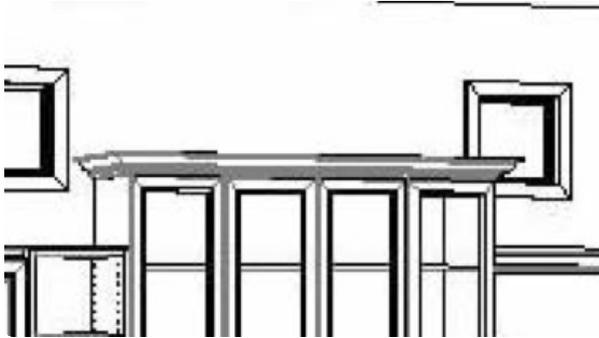
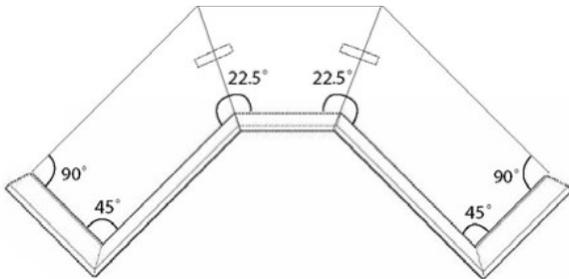

Fig. 1
Fig. 3
- Most crown molding installations will only require 90° standard cross cuts and 45° angle cuts to finish tower-top molding (as in front view, Fig. 1). On more rare occasions, with angled or curved wall installations, you may be required to cut 22.5° angles or other angles to match unusual office configurations (Fig. 3). Fortunately, the Ridgid mitre saw (and most other major brand saws) provide notches, presets with lock down saw positions for the most common angle cuts (Fig. 2).